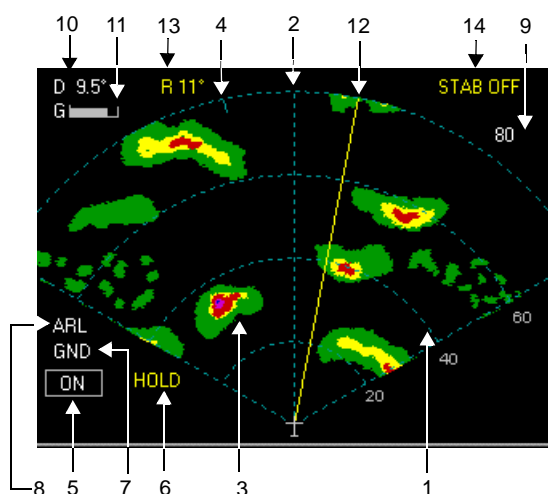
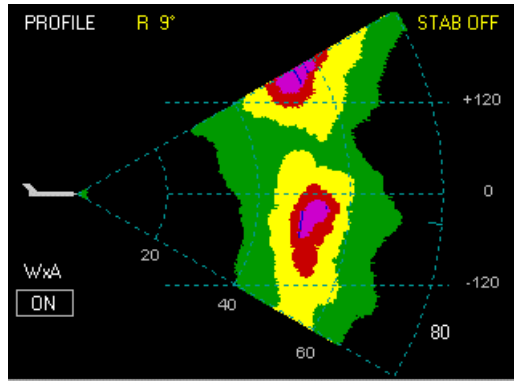

Figure 3: Radar Data Page
Figure 9: Vertical Profile view
FlightMax Radar's data page (Figure 3) is shown in a typical radar configuration in the horizontal plane. Radar sensors equipped with a Vertical Profile option can display a slice of approaching weather in vertical profile, see Figure 9. The same data appears in both displays.
NOTE: Figure 3 displays as many features as possible. Your particular radar may not support all these features. See the Features Matrix (see Table 3, "Feature Matrix," on page 28) for a complete listing of the features available on your radar.
4. **Scan Indicator (Beam View™)** - The current position of the scan is shown by BeamView, a highlighted arc (as shown in Figure 3). Scan width of the arc is set at the Settings menu by your installer based on your antenna size. BeamView can be turned off and a small tick mark will indicate the position of the scan. Precipitation data is constantly updated as the radar scans.
The vertical profile mode allows the pilot to view approaching weather as a slice of the vertical plane instead of the more conventional horizontal, forward view (Figure 9). This feature is available on some radar sensors. See the Features Matrix to determine if your radar contains this feature. Other modes and functions are not affected by changing to vertical profile mode.